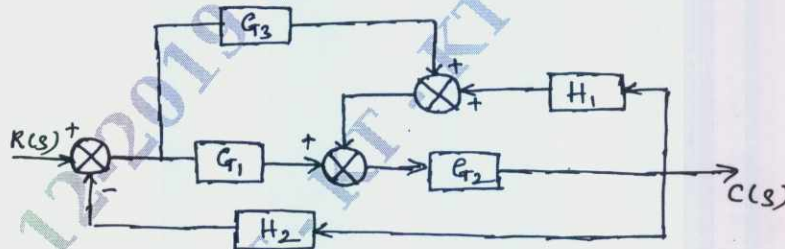

Fig.Q4(a)
- 4 a. Obtain the overall transfer function of the block diagram shown in Fig.Q4(a) by reduction technique. (10 Marks)